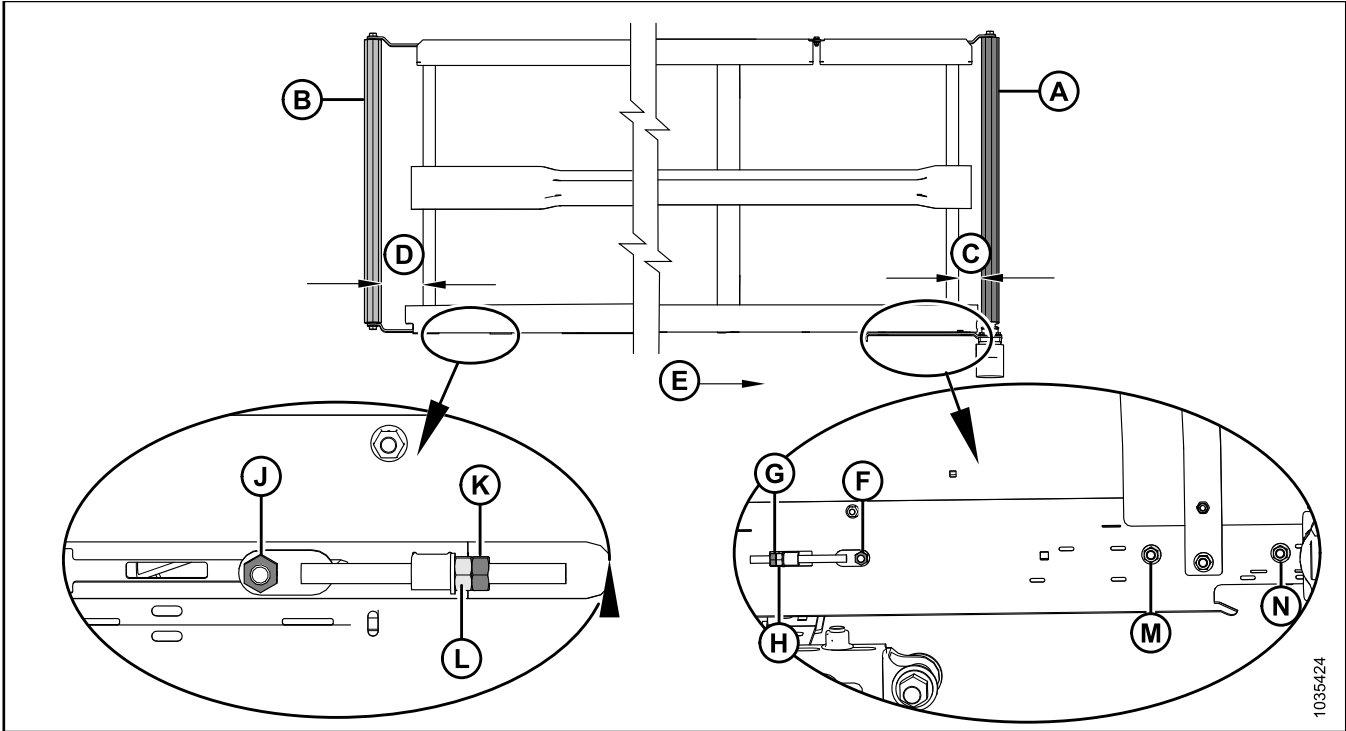

Figure 9.15: Draper Tracking Adjustments – Left Draper
2. Adjust drive roller (A) to change **C** (refer to Table 9.5, page 366 and Figure 9.15, page 366) as follows:
- a. Loosen nuts (F), (M), and (N), and jam nut (G).
- b. Turn adjuster nut (H).
- c. Tighten nuts (F), (M), and (N), and jam nut (G).
3. Adjust idler roller (B) to change **D** (refer to Table 9.5, page 366 and Figure 9.15, page 366) as follows:
- a. Loosen nut (J) and jam nut (K).
- b. Turn adjuster nut (L).